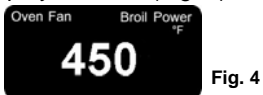

Fig. 4
- Press the "Oven" button three (3) times to select the "Convection/Fan Broil" feature. The default temperature will be displayed on the display window. (Fig. 4)